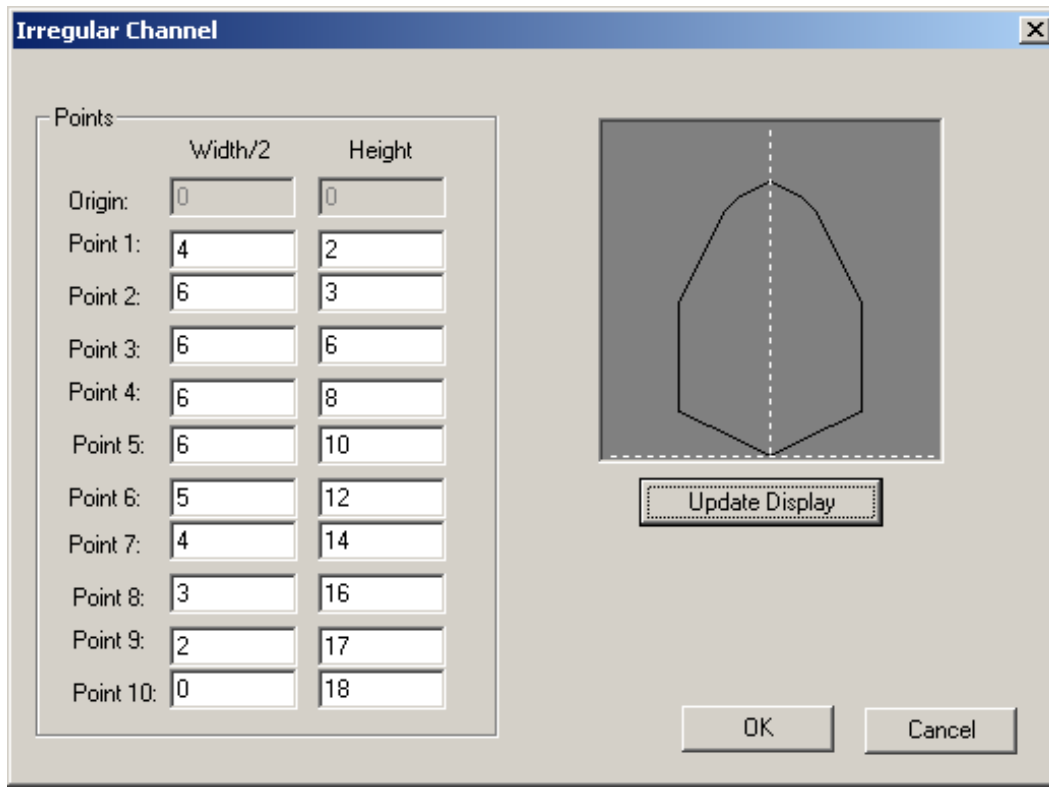

Figure 2-12 Irregular Channel Configure window
7. Enter the Width/2 (half the width) and its corresponding Height for ten different points (Heights) in the channel. Point 1 represents the lowest point in the channel. As you enter the widths/2 and their corresponding heights, click Update Display to see them represented graphically (Figure 2-12).